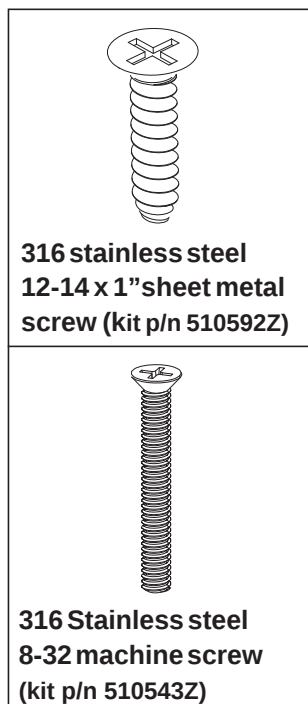

Figure 1
- Install a gasket under and on top of the vinyl liner. Align the gasket and face ring screw holes. Secure the face ring on the top gasket with the eight (8) 316 12-14 x 1" sheet metal self-tapping screws (provided), see Fig. 1. Using a No. 2 Philips head screwdriver, tighten each retaining screw to a **torque value of 10.00 (minimum) to 15.0 (maximum) in-lbs** to secure the face ring and gaskets on the sump. DO NOT OVER TIGHTEN THE SCREWS. DO NOT ASSEMBLE WITH POWER TOOLS.
⚠ WARNING ONLY USE THE 316 STAINLESS STEEL 8-32 MACHINE SCREWS (SEE FIG. 1) PROVIDED. SUBSTITUTE SCREWS SUCH AS MASONRY SCREWS, SHEET ROCK SCREWS OR OTHER TYPES OF SCREWS SHOULD NEVER BE USED, WILL CAUSE THE COVER TO COME LOOSE AND COULD RESULT IN LIMB OR BODY ENTRAPMENT, HAIR ENTANGLEMENT OR EVISCERATION/ DISEMBOWELMENT.